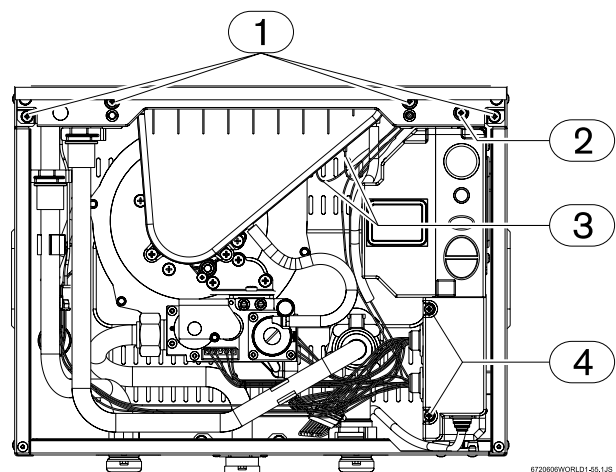

Fig. 24
- Remove control box auxiliary cover (Fig. 24, pos. 4).
- ▶ Remove the 5 screws on the front retaining bar (see Fig. 24, pos. 1 and 2) being careful not to damage the foam sealant material on it.
- ▶ At the ignition electrodes, pull off the 2 yellow igniter wires that come from the top of the control board (Fig. 24, pos. 3). Then pull the complete control board forward and out of the heater, pull up the power supply cord further if more slack is needed.